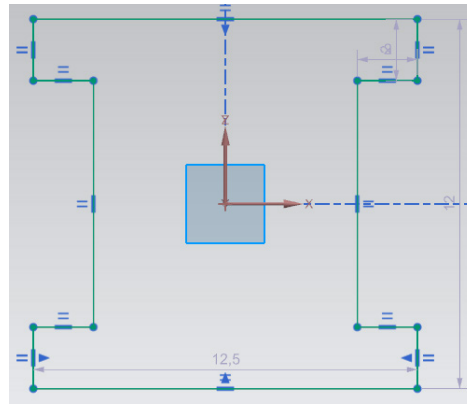

Figure 3-25 The outer profile after adding constraints
9. Similarly, make lines 1 and 7 symmetric about the horizontal axis. Next, choose the **Close** button from the **Make Symmetric** dialog box to close it. The sketch after applying constraints to all these entities is shown in Figure 3-25.